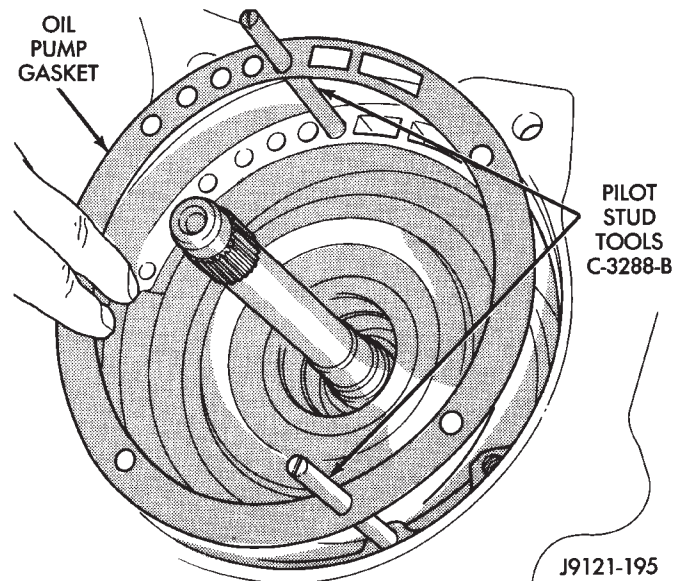
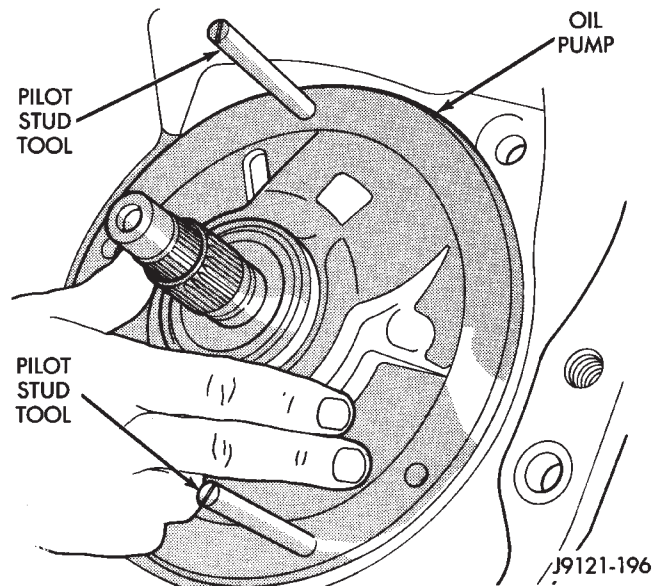

Fig. 111 Installing Pilot Studs And Oil Pump Gasket
Fig. 112 Installing Oil Pump And Reaction Shaft Support
(41) Thread two Pilot Stud Tools C-3288-B into bolt holes in oil pump flange (Fig. 111).
(42) Align and install oil pump gasket (Fig. 111).
(43) Lubricate oil pump seals with Mopar® Door-Ease, or Ru-Glyde, Door Eze, or ATF Plus 3.
(44) Install oil pump (Fig. 112). Align and position pump on pilot studs. Slide pump down studs and work it into front clutch hub and case by hand. Then install two or three pump bolts to hold pump in place.
(45) Remove pilot stud tools and install remaining oil pump bolts. Tighten bolts alternately in diagonal pattern to 20 N·m (15 ft. lbs.).